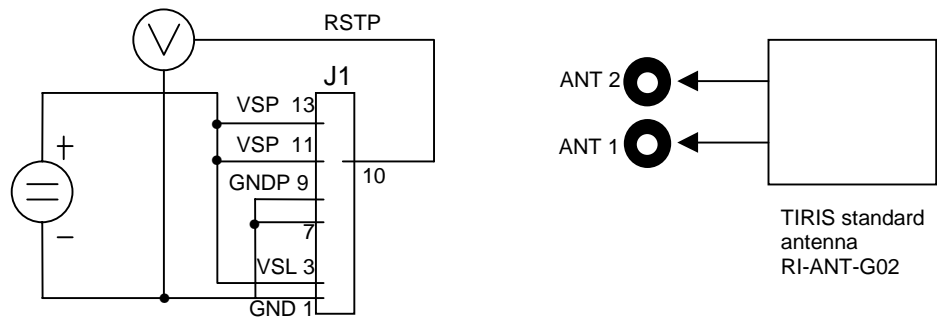

Figure 12: Noise Testing Configuration
The test pin RSTP at connector J1 pin 10 carries an analog output voltage indicating the receive signal strength. This voltage should be measured in combination with the antenna RI-ANT-G02. The necessary set-up for this test is shown in Figure 12. This configuration operates the RFM from a battery and has no interface line connected. As the transmitter is switched off in this configuration, a normal battery may be used. A low noise level is indicated by an RSTP voltage of less than 1.0 VDC when using antenna RI-ANT-G02.
Try the configuration shown in Figure 12. If this configuration shows bad noise conditions (RSTP voltage more than approximately 1.0 VDC) then the problem is radiated noise.
1. When the configuration of Figure 12 shows good noise conditions (RSTP voltage less than 1.0 VDC) then the problem is conducted noise.